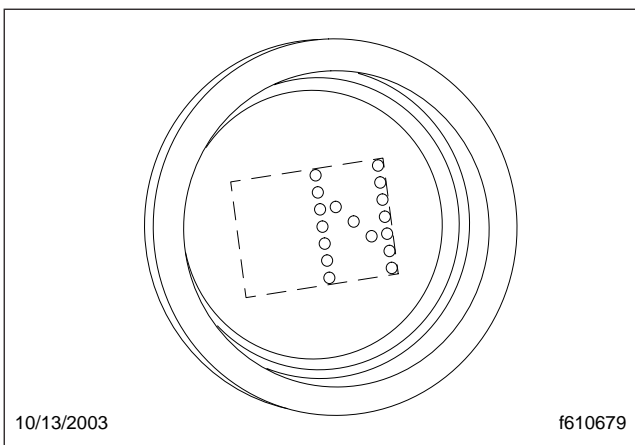

Fig. 8.18, Neutral Display
Neutral (N) is directly below R on the four-position selector switch located at the end of the SmartShift control lever. To select N, move the selector switch to the position below R. When neutral is selected, the letter "N" displays on the gear indicator. See Fig. 8.18.